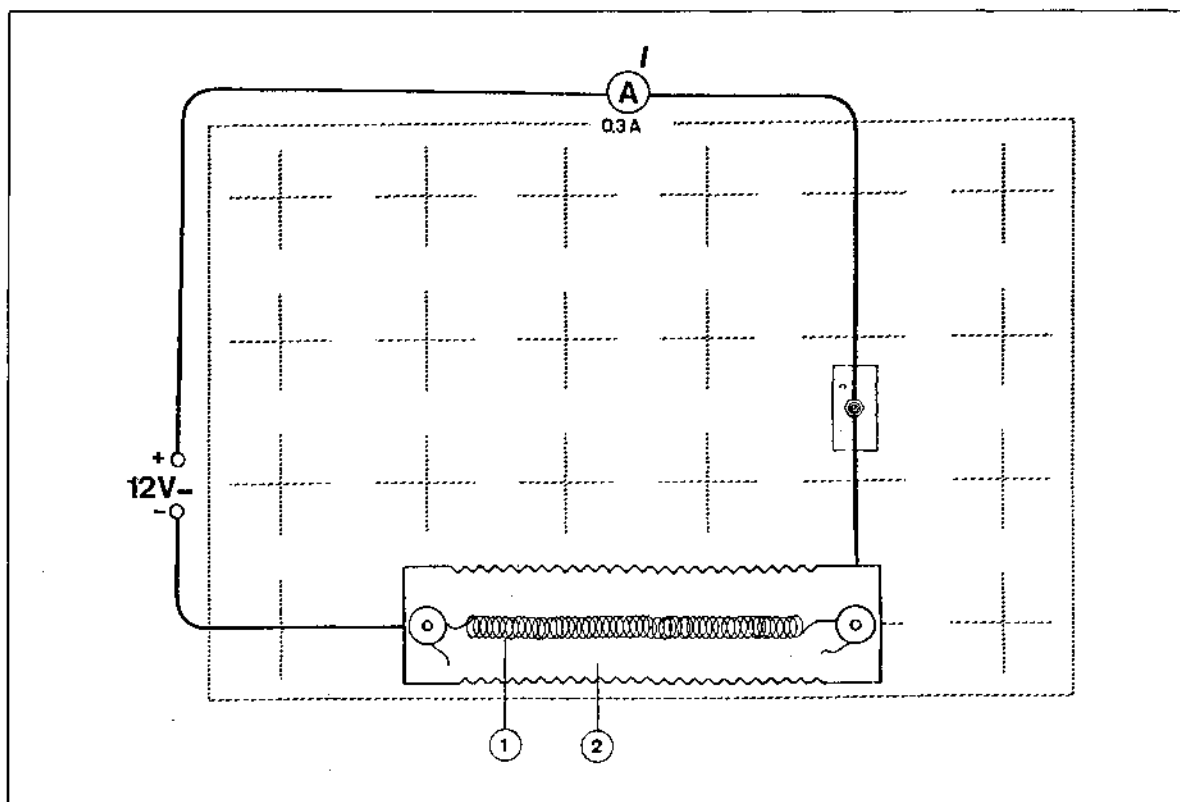

Fig. 1 Experiment setup: Self-heating and temperature sensitivity in wire-wound resistors
1. Construct the circuit shown in fig. 1 (without the wire filament). To start with, the switch is open. If you are using a DC voltage source, make sure the ammeter is connected correctly: The measuring instrument's "+" input (red socket) must be connected to the voltage source's \oplus -pole, the "-" input (blue socket) to the \ominus -pole.